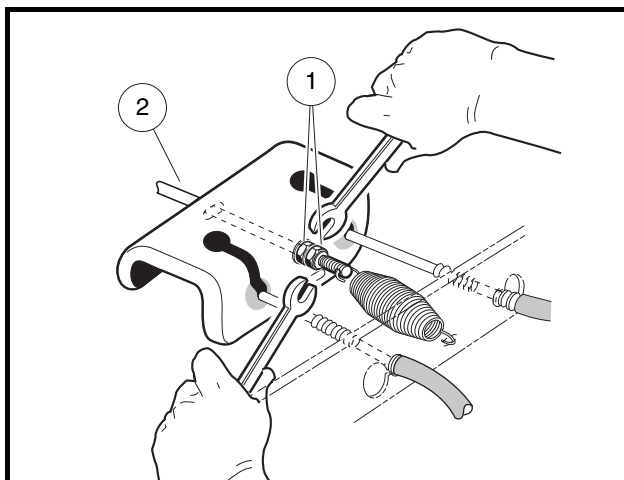

Figure 6-1 Loosen Equalizer Nut
2. Release park brake if latched and loosen equalizer retaining nuts (1) on equalizer rod (2) to slightly loosen brake cable (**Figure 6-1, Page 6-1**).